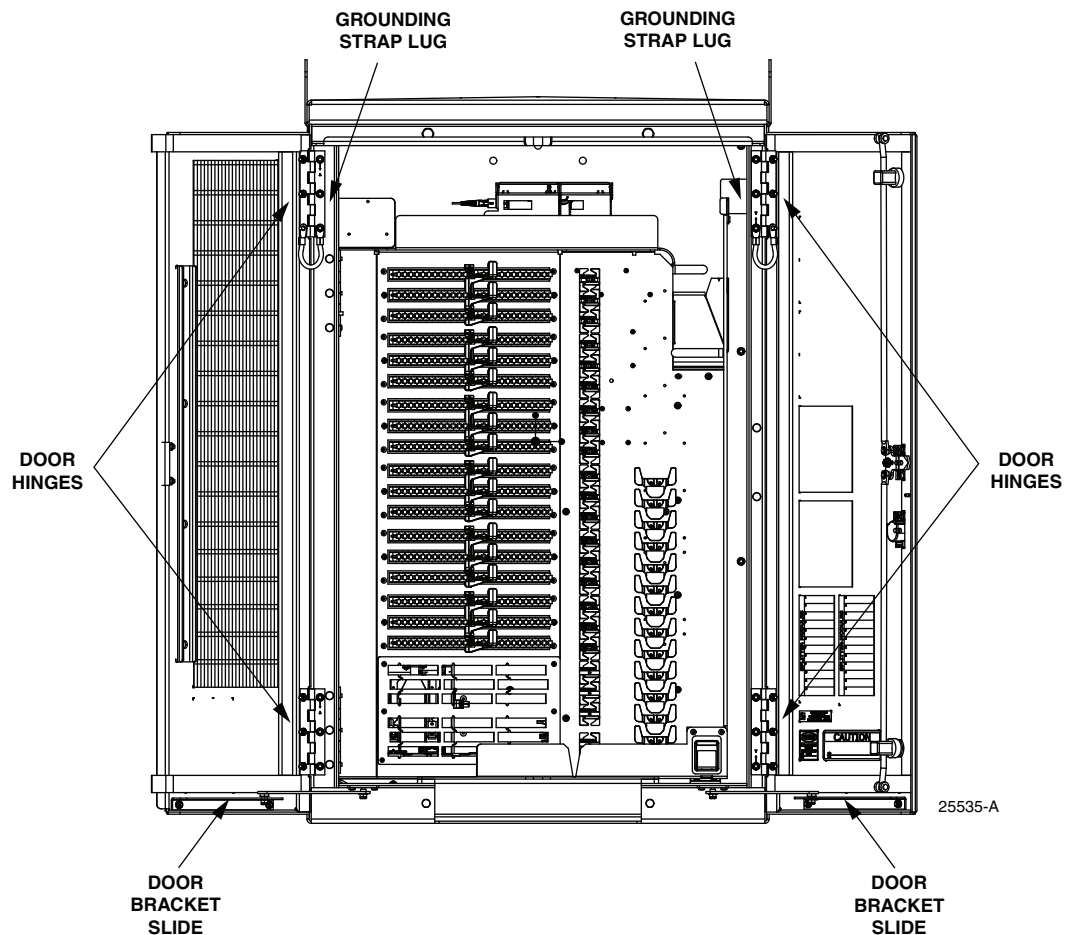

Figure 26. Door Replacement
1. Open both cabinet doors and lock them in the open position as shown in Figure 26.
- **Note:** Be sure to re-secure the grounding strap lug (see Figure 26) to the door when securing the hinges to the door.